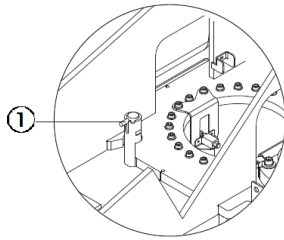

Figure 10-1 Rotary table rotating lock pin
- 6) Ensure that the rotary table is secured with the rotary table rotary lock before transport, as shown in Figure 10-1. Ensure that the rotary table is unlocked during operation.
- 1) The rotary table should be locked with a turntable rotating locking pin each time the machine is transported, as shown in Figure 10-1.